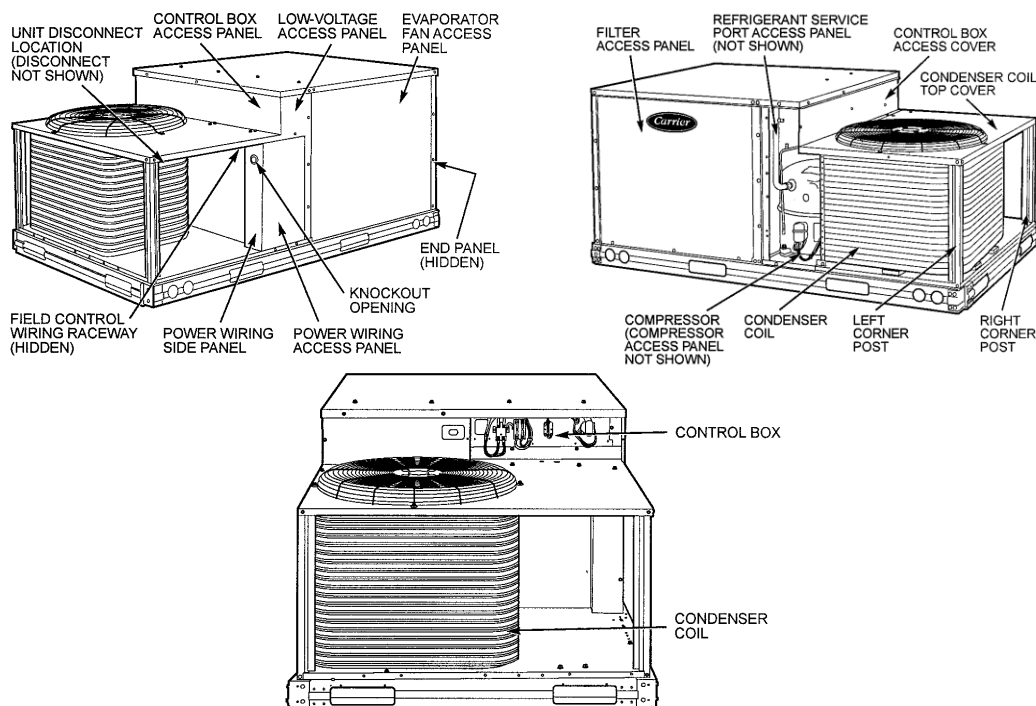
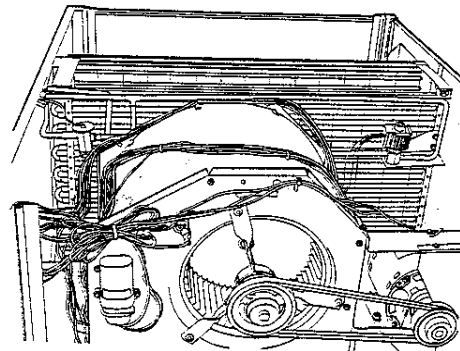
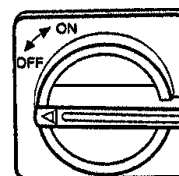

FIGURE 1 – Typical Component Location
FIGURE 2 – Fan & Motor Assembly
FIGURE 2
If the 208-V unit is to be connected to a 230-V power supply, the transformer must be rewired by moving the black wire from the red wire on the transformer and connecting it to the orange wire from the transformer. The end of the red wire must then be insulated. To change these wires, remove the low voltage access panel and the control box access panel. See Figure 1.
1. Remove evaporator fan access panel (**See Figure 1**). Check fan and belt rotation by turning on disconnect for one to two seconds. **See Figure 2.**
3. Replace evaporator fan access panel. **See Figure 2.**
The On/Off switch (Disconnect) is mounted on the unit under the top panel and behind the condenser coil. **Reference Figure 1 and Figure 2.**